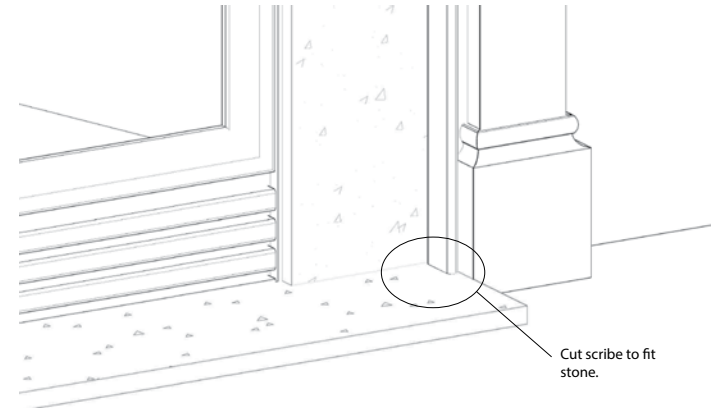

Figure 13
10. If using a hearth that fits between the leg opening, cut the scribe to allow for stone height between the legs. Place the scribe molding as shown above, positioning it so that it just contacts the noncombustible surround. Be careful not to hit the facing material when nailing the scribe in place. No cutting is needed if hearth exceeds mantel legs. See Figure 13.